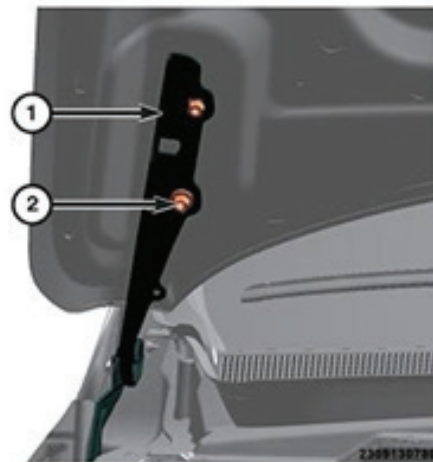

Figure 2
2. Using a 13mm socket wrench, loosen the four (4) nuts that secure the hood to the upper hood hinge bracket so they can be removed by hand. (Figure 2, #1)
4. With assistance and with a 13mm socket wrench, remove the four (4) hood bolts and remove the hood.